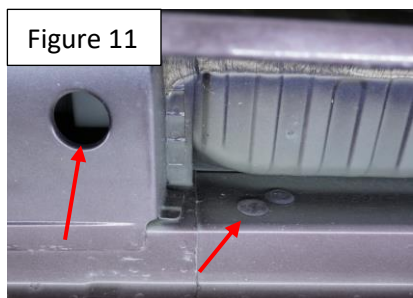
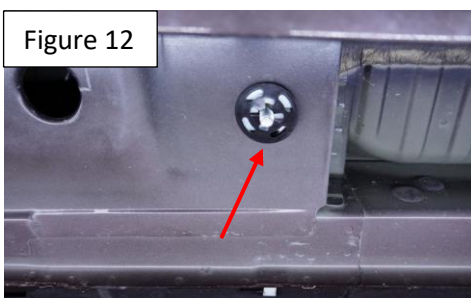
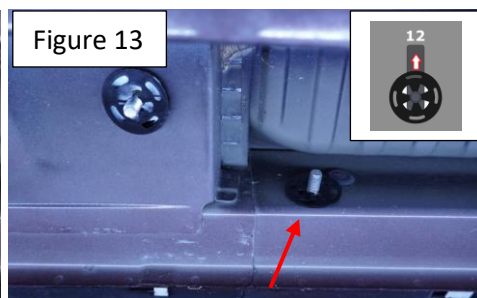

Figure 11
Figure 12
Figure 13
Step 5: Locate rear bracket mounting locations. Remove factory rubber plug Figure 11. Install HTC 240 #17 as shown Figure 12. Install HTC 226 #15 making sure the insert is placed at 12 o'clock Figure 13.